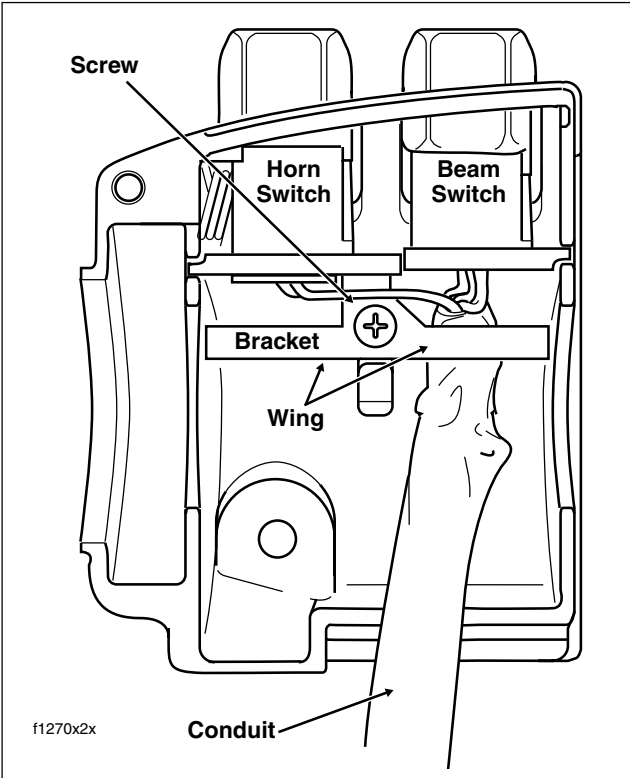
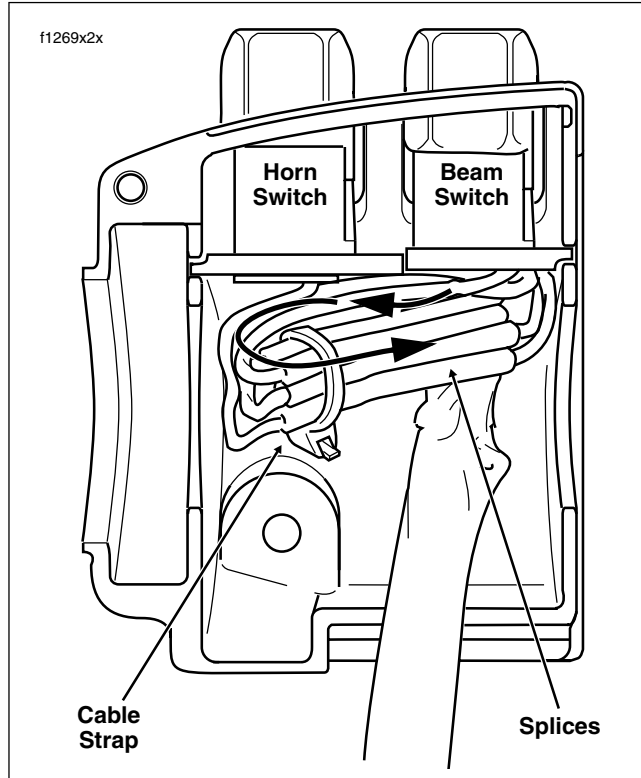

Figure 8-101. Upper Left Handlebar Switch Housing (Without Splices)
Figure 8-102. Upper Left Handlebar Switch Housing (With Splices)
1. See Figure 8-101. From inside the switch housing, remove Phillips screw to release the bracket. Remove the bracket and switch assembly from the housing.
6. Loop switch wires so that spliced lengths are positioned as shown in Figure 8-102. Route wires downstream of splices beneath wing on High/Low Beam Switch side of bracket as seen in Figure 8-101.
9. Install Phillips screw to secure bracket inside housing. Verify that wing on High/Low Beam Switch side of bracket captures edge of conduit as shown in Figure 8-101.
10. Securely tighten cable strap to draw splices to bracket. Remove any excess cable strap material. See Figure 8-102.